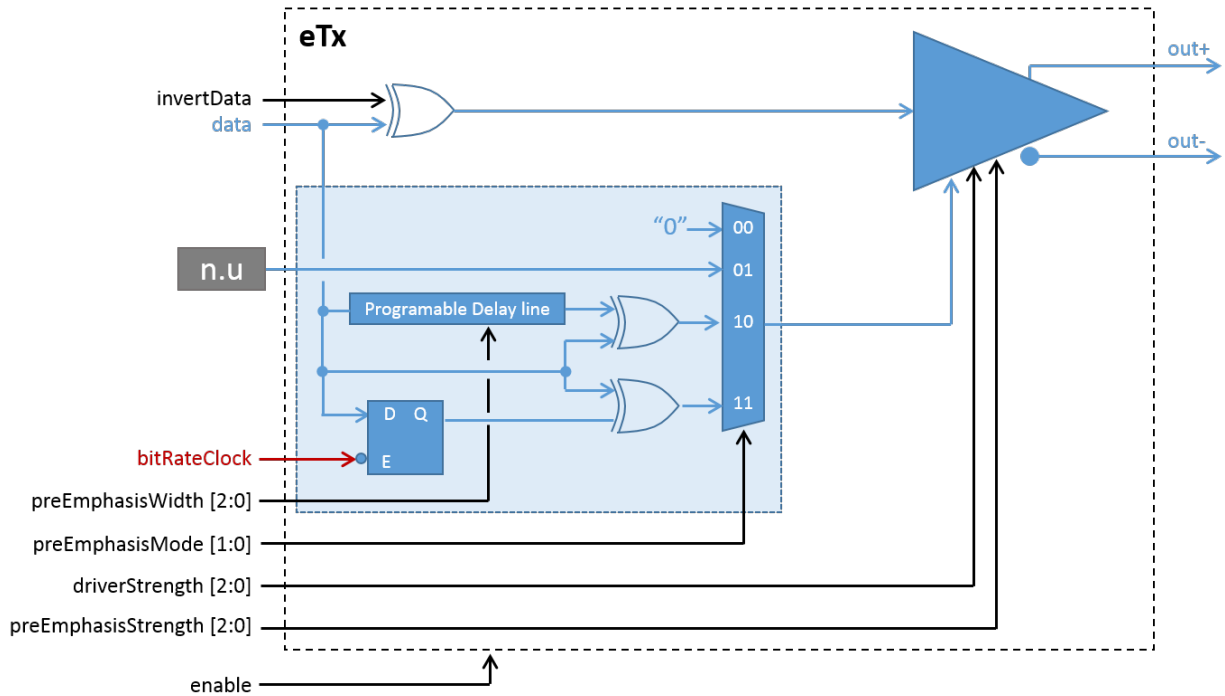

Fig. 7.5: eLink receiver
Fig. 7.5 illustrates the architecture of the IpGBT eLink driver. The same driver is used for the data outputs, up to 320 Mbps, and the clock outputs, up to 1.28 GHz. The driver has been designed to drive 100 Ohm loads with programmable strengths and controlled amounts of pre-emphasis. It has been designed to satisfy the CLPS standard previously described in this chapter. The driver offers many programmable features which include:
- *Enabling a clock driver:* In this case the signal "enable" in Fig. 7.5 becomes: enable = (EPCLK[G]Freq[2:0] != 2'b00). That is, every time a clock output is set to work at any of the frequencies between 40 MHz and 1.28 GHz the corresponding driver is enabled. The clock frequency is controlled by bits 2:0 of registers [\[0x06c\] EPCLK0ChnCntrH](#) (page 150) to [\[0x0a4\] EPCLK28ChnCntrH](#) (page 187);
- *Enabling a data driver:* In this case it is possible that even if a given group is active that a specific channel within that group will not be used. Consequently it is necessary to explicitly enable the channels in use. Here, the signal "enable" in Fig. 7.5 becomes: enable = EPTX[G][C]Enable. These signals are controlled by registers [\[0x0a9\] EPTX10Enable](#) (page 190) and [\[0x0aa\] EPTX32Enable](#) (page 190); Notice that, if the mirror function is not enabled, for a given data rate only the channels indicated in table ePortTx \(downlink\) data rates (page 48) can be enabled. If the mirror function is enabled for a given group it is possible to enable all the channels in that group. The mirror function is controlled on a group basis by signals EPTX[G]MirrorEnable in register [\[0x0a8\] EPTXControl](#) (page 189) (Bits 3:0).
- *Clock driver strength:* For clock drivers the driving strength is set by the signal "driverStrength[2:0]" in Fig. 7.5 with driverStrength[2:0] = EPCLK[C]DriveStrength[2:0]. These signals are controlled by bits 5:3 of registers [0x06c] EPCLK0ChnCtrH (page 150) to [0x0a4] EPCLK28ChnCtrH (page 187);
- *Data driver strength:* For data drivers the driving strength is set by the signal "driverStrength[2:0]" in Fig. 7.5 with driverStrength[2:0] = EPTX[G][0]DriveStrength[2:0]. These signals are controlled by bits 2:0 of registers [0x0ac] EPTX00ChnCtr (page 191) to [0x0bb] EPTX33ChnCtr (page 202). For the EC channel driverStrength[2:0] = EPTXEcDriveStrength[2:0], these signals are controlled by bits 2:0 of registers [0x0ab] EPTXEcChnCtr (page 190);
- *Clock driver pre-emphasis strength:* For clock drivers the driving strength is set by the signal "preEmphasisStrength[2:0]" in Fig. 7.5 with preEmphasisStrength[2:0] = EPCLK[C]PreEmphasisStrength[2:0]. These signals are controlled by bits 7:5 of registers [0x06d] EPCLK0ChnCtrL (page 150) to [0x0a5] EPCLK28ChnCtrL (page 188).
- *Clock driver pre-emphasis timing:* The pre-emphasis pulse width is controlled by two parameters (Fig. 7.5) the timing **Mode** and the **Pulse Length**. The "Mode" allows to select between no pre-emphasis, pre-emphasis with "clock timed" pulse duration (1/4 of the clock period) or "self timed" where the pulse width can be programmed from 120 ps up to 960 ps. Notice that the "clock timed" mode is not valid if the clock output is set to 1.28 GHz and that in the "self timed" mode the pulse width should never be programmed to exceed 1/2 clock period. The pre-emphasis mode is selected by the signals preEmphasisMode[1:0] = EPCLK[C]PreEmphasisMode[2:0] that are controlled by bits 4:3 of registers [0x06d] EPCLK0ChnCtrL (page 150) to [0x0a5] EPCLK28ChnCtrL (page 188). When in the "self timed" mode, the signals preEmphasisWidth[2:0] = EPCLK[C]PreEmphasisWidth[2:0] set the pulse width and are controlled by bits 2:0 of registers [0x06d] EPCLK0ChnCtrL (page 150) to [0x0a5] EPCLK28ChnCtrL (page 188).
- *Data driver pre-emphasis strength:* For data drivers the driving strength is set by the signal "preEmphasisStrength[2:0]" in Fig. 7.5 with preEmphasisStrength[2:0] = EPTX[G][C]PreEmphasisStrength[2:0]. These signals are controlled by bits 7:5 of registers [0x0ac] EPTX00ChnCtr (page 191) to [0x0bb] EPTX33ChnCtr (page 202). For the EC channel preEmphasisStrength[2:0] = EPTXEcDriveStrength[2:0], these signals are controlled by bits 7:5 of registers [0x0ab] EPTXEcChnCtr (page 190);
- *Data driver pre-emphasis timing:* The pre-emphasis pulse width is controlled by two parameters (Fig. 7.5) the timing **Mode** and the **Pulse Length**. The "Mode" allows to select between no pre-emphasis, pre-emphasis with "clock timed" pulse duration (1/2 of the clock period) or "self timed" where the pulse width can be programmed from 120 ps up to 960 ps. Notice in the "self timed" mode the pulse width should never be programmed to exceed the bit period. The pre-emphasis mode is selected by the signals preEmphasisMode[1:0] = EPTX[G][C]PreEmphasisMode[1:0] that are controlled by bits 4:3 of registers [0x0ac] EPTX00ChnCtr (page 191) to [0x0bb] EPTX33ChnCtr (page 202). When in the "self timed" mode, the signals preEmphasisWidth[2:0] = EPTX[G][C]PreEmphasisWidth[2:0] set the pulse width and are controlled by bits 6:4 and 2:0 of registers [0x0bc] EPTX01_00ChnCtr (page 203) to [0x0c3] EPTX33_32ChnCtr (page 208). For the EC channel the pre-emphasis mode is selected by the signals preEmphasisMode[1:0] = EPTXEcPreEmphasisMode[1:0] that are controlled by bits 4:3 of register [0x0ab] EPTXEcChnCtr (page 190). When in the "self timed" mode, the signals preEmphasisWidth[2:0] = EPTXEcPreEmphasisWidth[2:1] set the pulse width and are controlled by bits 6:4 of register :ref:REG_EPTXCONTROL.